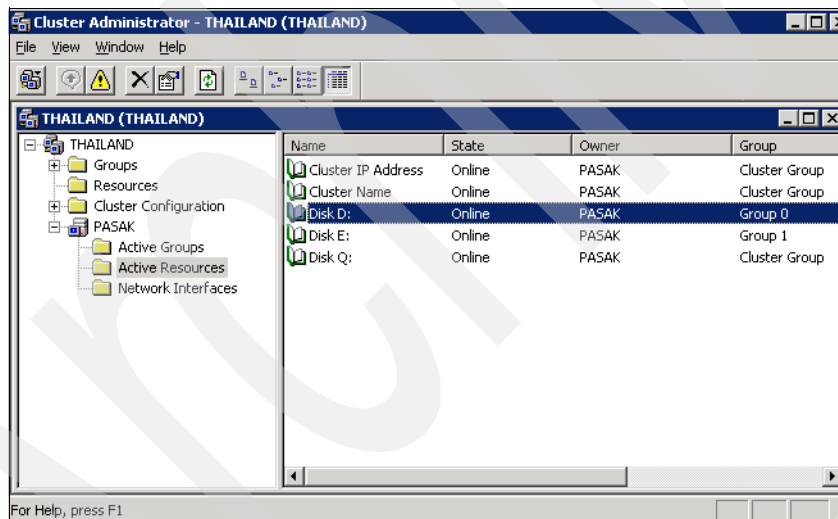

Figure 25-37 Cluster Administrator
13. The single node cluster is now visible through the Cluster Administrator (Figure 25-37). Double check the groups and resources to ensure that the system configuration matches the cluster configuration.